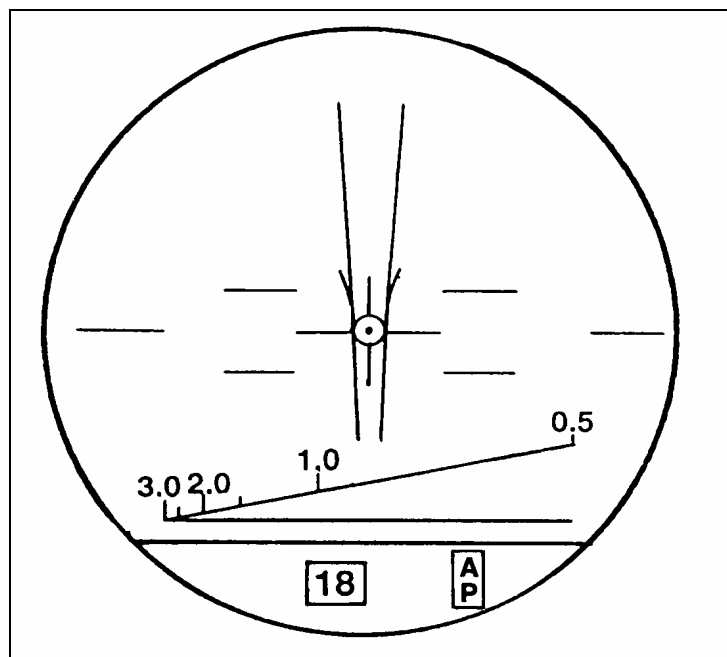

Figure 6-48. Air-defense reticle.
a. The 25-mm gun is effective against slow-moving, fixed-wing aircraft and helicopters (Figures 6-48 and 6-49, page 6-46). When using the ADR sight, the gunner indexes 1,800 meters. He can use APDS-T, APFSDS-T, or HEI-T ammunition. To sustain the volume of fire and kill the target, he fires a continuous burst of 20 to 25 rounds (high rate), using TOT to adjust rounds on target. The APDS-T and APFSDS-T rounds have higher probabilities of hitting the target than does the HEI-T round. However, its greater dispersion factor gives the HEI-T round a higher probability of kill. For helicopter targets--
- (1) At ranges beyond 1,200 meters, the APDS-T is the most effective round.
- (2) At ranges within 1,200 meters, the HEI-T is the most effective round.
- (3) The ADR applies only for use on frontal targets.